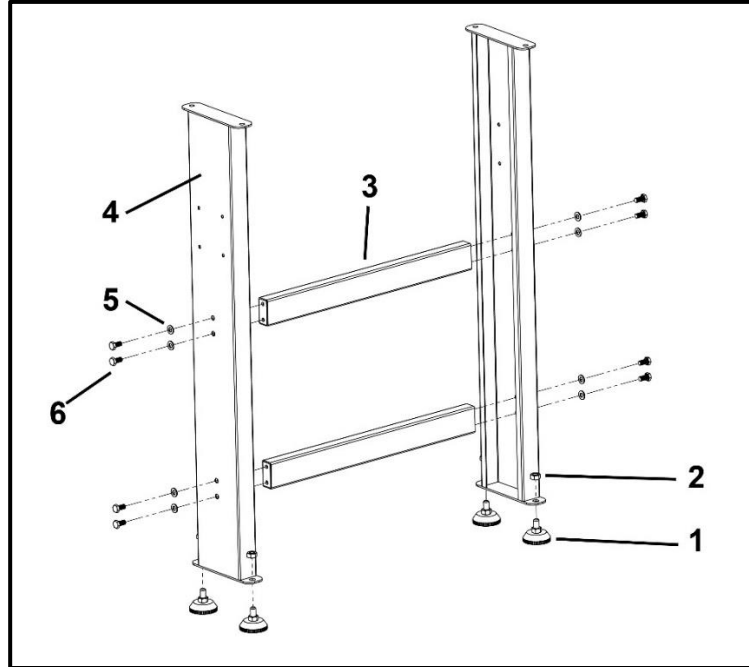

Fig. 1
1. Fit 4 support feet (1) to bottom of support legs using hex nut (2), put cross brace between these two support legs, fixing them by 4pcs hex bolt M8x12 and 4pcs washer. See Fig 1.